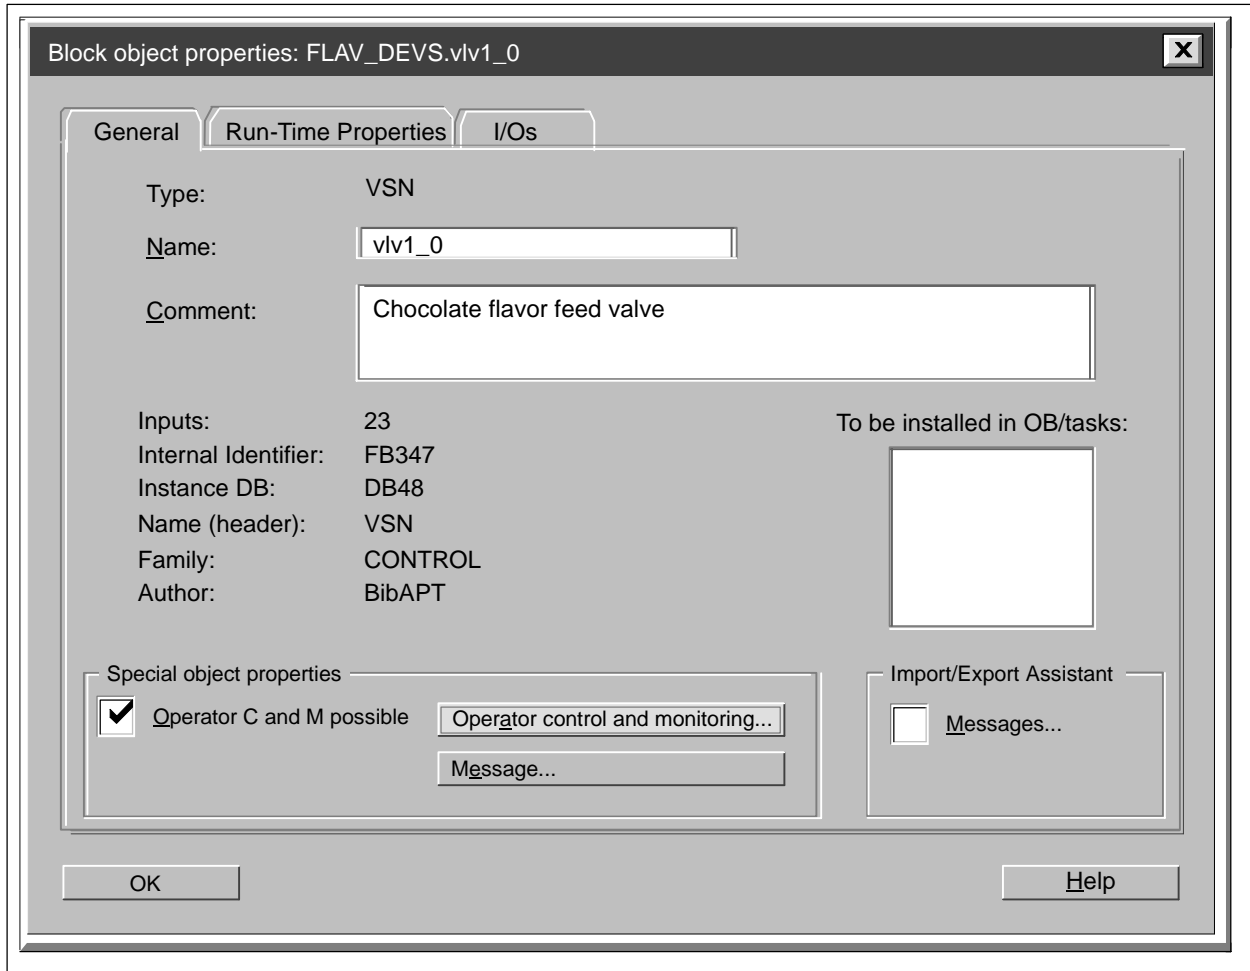
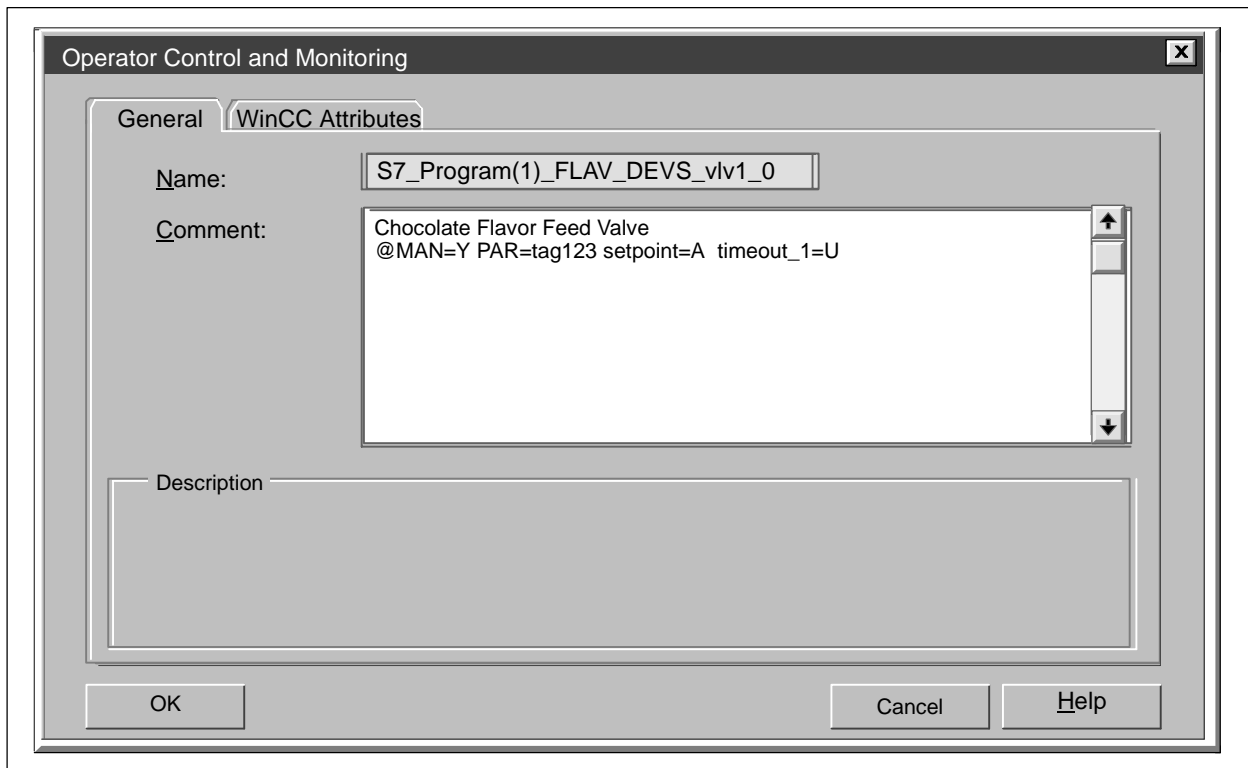

Figure 2-1 Block Object Properties
Figure 2-2 Operator Control and Monitoring Window
1. Double-click the left mouse button on the title bar of the function block. The Block Object Properties dialog box appears (Figure 2-1).
5. You can enter a tag description for OSx purposes in the Comment field of the Operator Control and Monitoring window (Figure 2-2). The tag description in the Comment field of the General folder of Block Object Properties (Figure 2-1) is for the CFC only and does not appear in OSx.